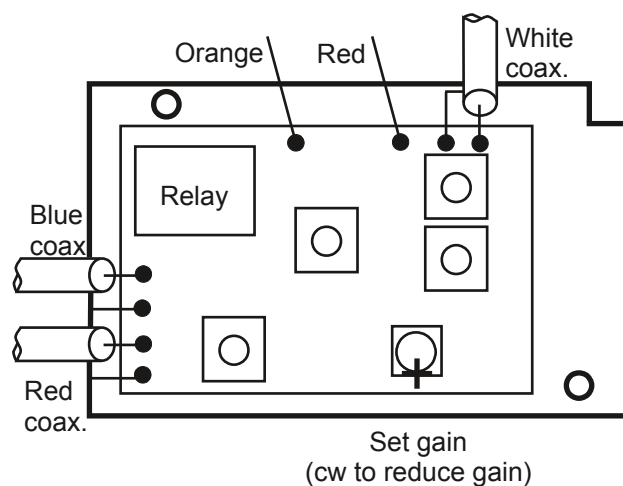

Figure 4: Connections to preamplifier pcb
8. Unwrap the SLNA290s1 and the kit of cables. Refer to Fig.4 and solder the cables to the preamplifier as shown. BE VERY CAREFUL NOT to allow small whiskers of braid from the screened cables to short across the pads.